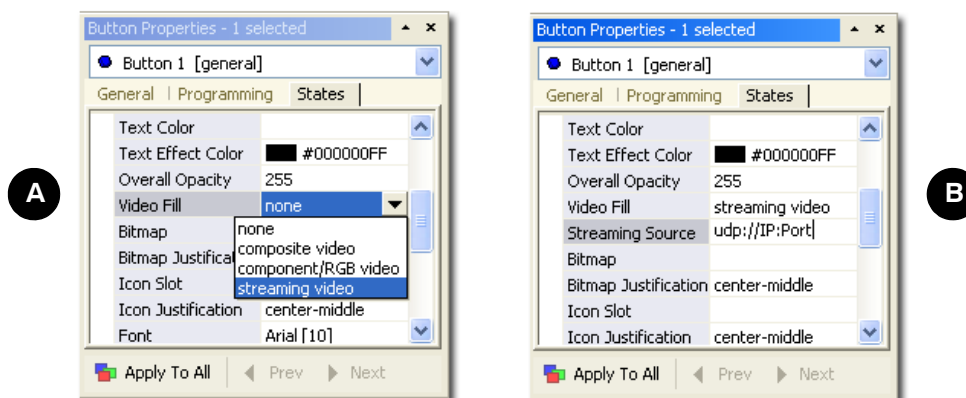

FIG. 137 Video Fill - Button Properties setting
- Double-click the **All States +** symbol to expand this folder (FIG. 137) and locate the *Video Fill* field.
- Use the *Video Fill* drop-down arrow to select the **Streaming Video** option (A in FIG. 137).
- Within the newly added *Streaming Source* field, enter the Transport Protocol, IP Address of the MAX-CSE, and Target Video Port (B in FIG. 137).